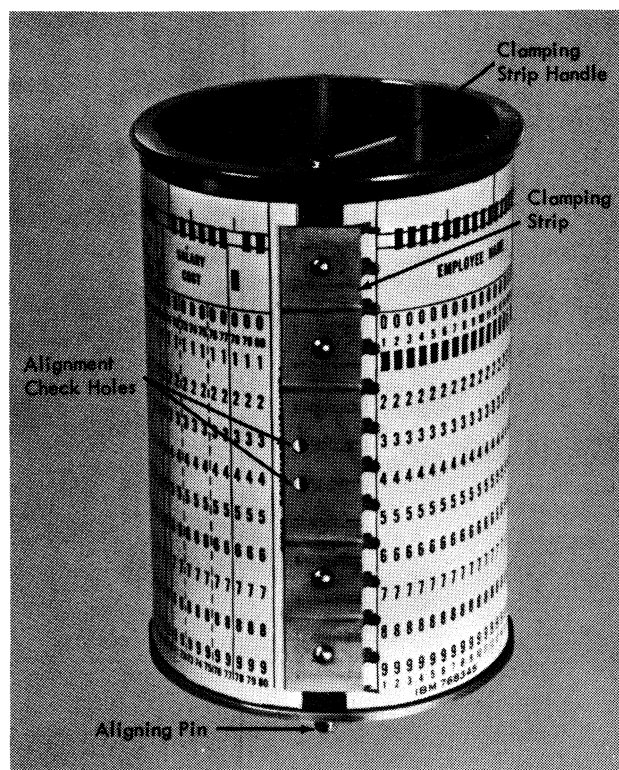

Figure 545-12. Program Drum
The program drum (Figure 545-12) is the part of the program unit that holds the program card. The program drum can be removed by the operator so that the program card can be inserted to set up the program operation for a specific application.
column-1 end of the card from beneath the toothed clamping strip (see Figure 545-12).
1. With the clamping-strip handle turned fully counterclockwise, insert the column-80 end of the card under the smooth edge of the clamping strip (see Figure 545-12). Two alignment check holes in the clamping strip make it possible to see that the card is flush with the metal edge under the strip. The card should be positioned so that the 9-edge of the card is against the lower rim of the drum.